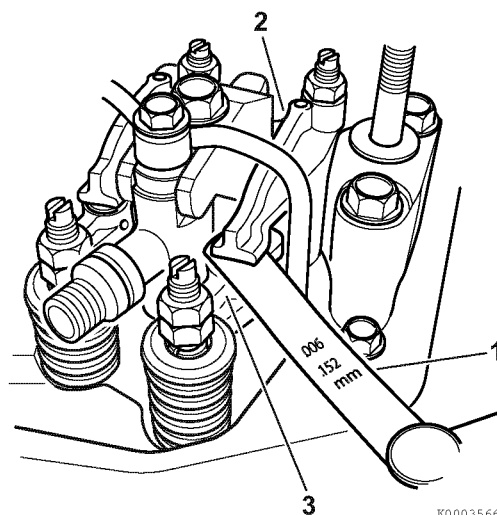

Figure 6-85
8. To adjust the actual valve clearance between the rocker arm and the valve bridge, insert a feeler gauge (**Figure 6-85, (1)**) of the correct thickness (See *Adjustment Specifications on page 6-4*) between the rocker arm (**Figure 6-85, (2)**) and valve bridge (**Figure 6-85, (3)**). Record the results and use this value as an indication of wear.